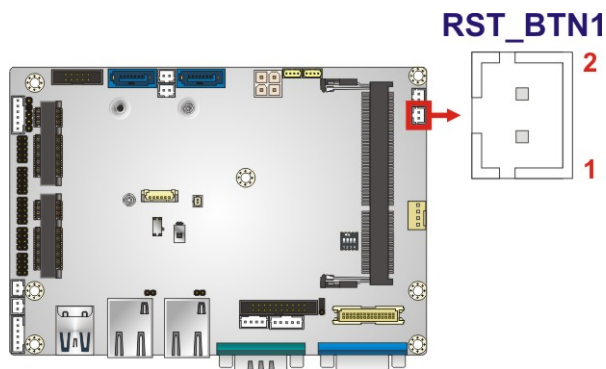

Figure 3-19: Reset Button Connector Location
- CN Location:** See Figure 3-19